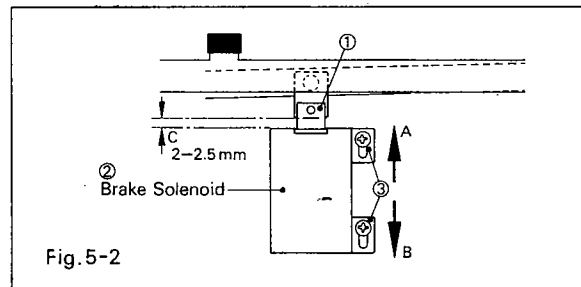

Fig. 5-2
- 1) Push the Play and Stop Buttons alternately and check the stroke of the Brake Solenoid Plunger (indicated (C) in Fig. 5-2).
- 2) Loosen two screws ③ and adjust the position of the solenoid so that the operating stroke of the solenoid plunger will be from 2 to 2.5mm.